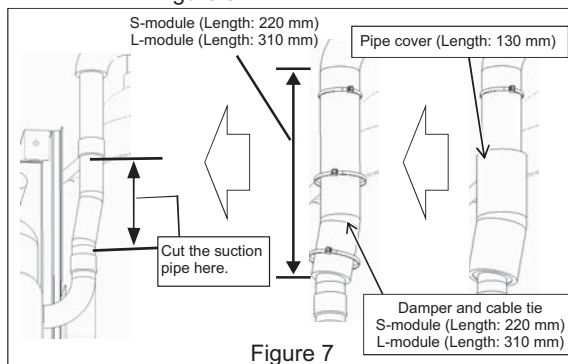

Figure 7
- (7) Remove the pipe cover and the damper, and cut the suction pipe where indicated in Figure 7.
\*When re-placing the pipe cover and the dumper, use the ones with the sizes shown in Figure 7, which are supplied with the replacement compressor.